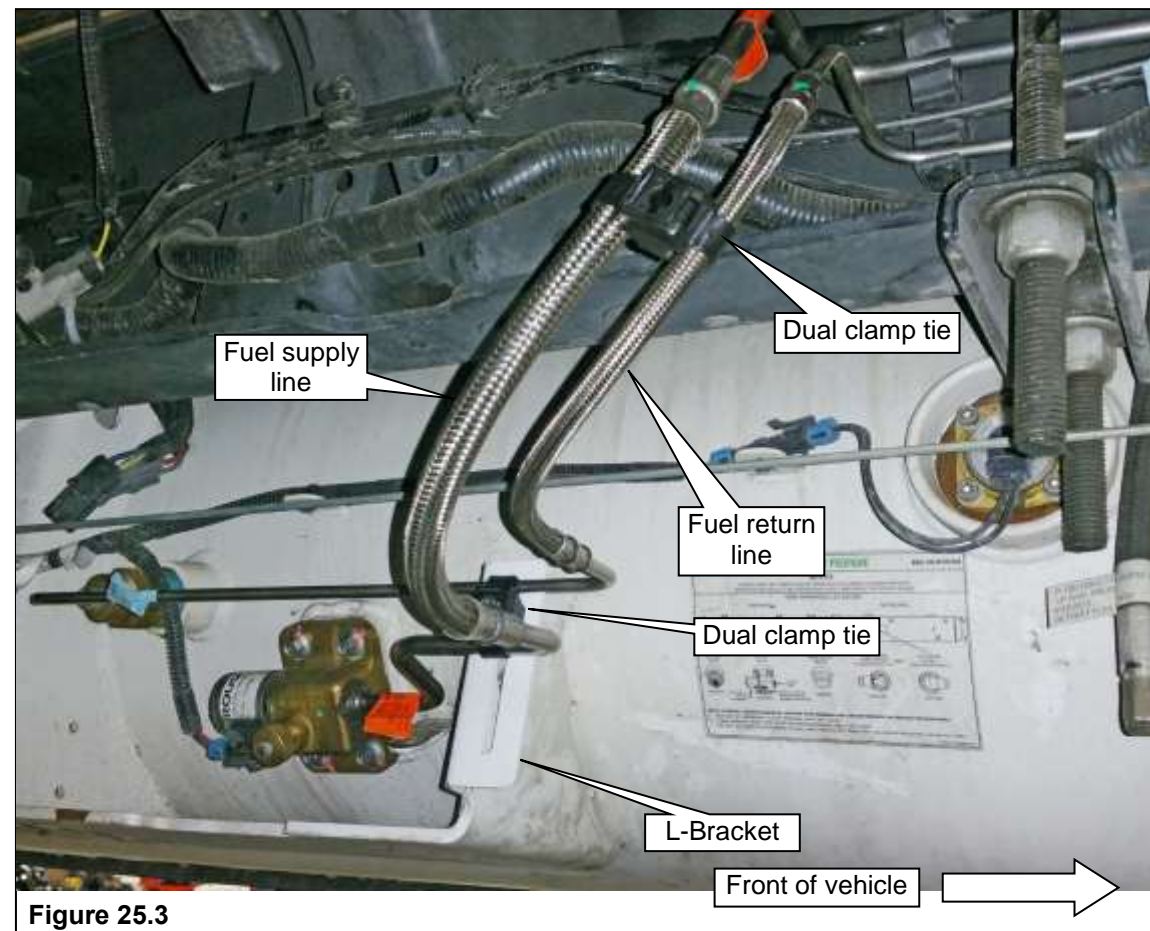

Figure 25.3
9. Install additional double zip tie to the flex portion of the fuel lines. **Figure 25.3.**